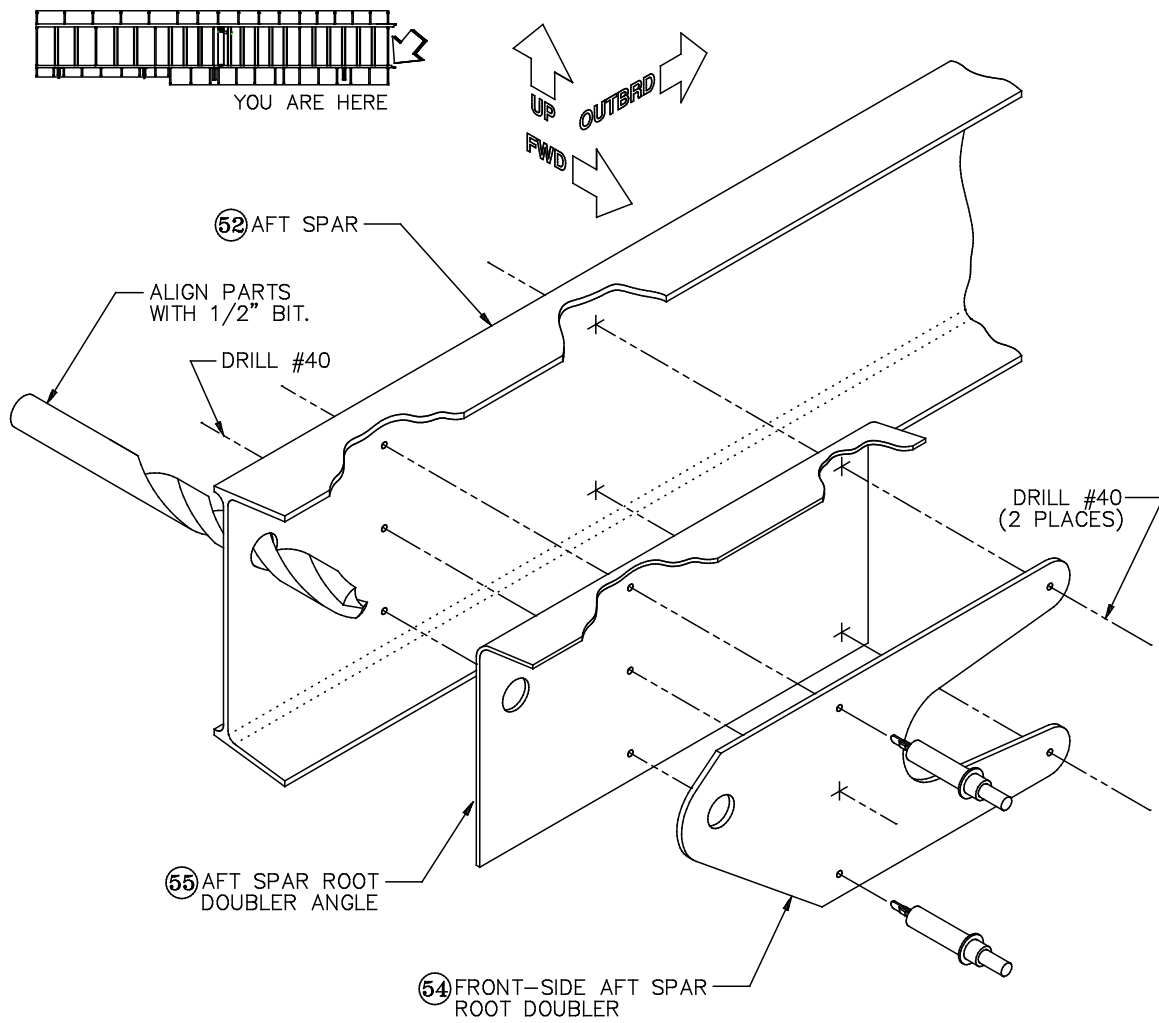

Figure 15: Front-Side Aft Spar Root Doubler
B) Use the 1/2" drill bit to align the wing attach hole in the **front-side aft spar root doubler** [54] with the wing attach holes in the aft spar/doubler angle assembly, as shown in Figure 15. Use the upper and lower of the three holes drilled in Step A to Cleco the front-side doubler to the assembly.
Use the two holes near the outboard end of the front-side doubler to drill **#40** holes through the aft spar/doubler angle assembly, as shown in Figure 15. Use the middle hole drilled in Step A as a guide to drill a **#40** hole through the front-side doubler.